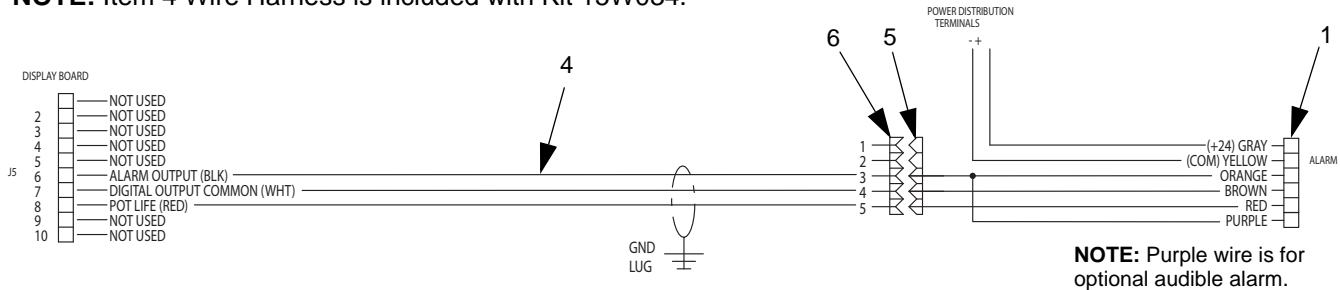

FIG. 6: 15W034 Beacon Tower Kit Wiring Diagram
5. Connect orange, brown, and red wires to header (5) pins 3, 4, and 5. See FIG. 6 on page 6.
6. To enable the optional audible alarm, connect purple wire to pin 3 on header (5). See FIG. 6 on page 6. When enabled, it will sound for all system alarms.